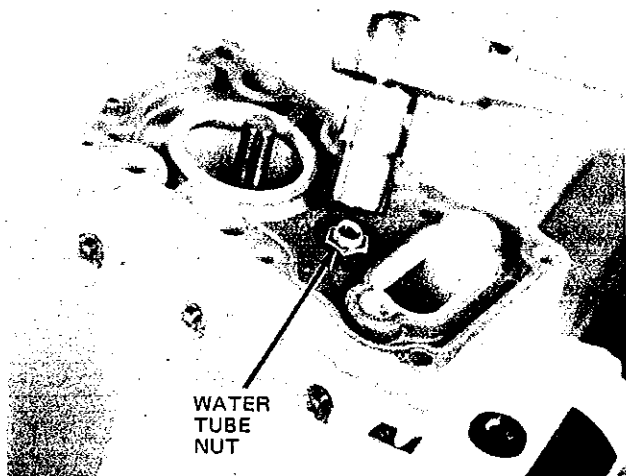

Figure 9
- (1) Remove water tube nut, washer and seat (Figure 9).
- (2) Remove lower adaptor plate and gasket.
- (3) Remove exhaust deflector and gasket.
- (4) Remove upper adaptor plate from engine by removing the six screws.